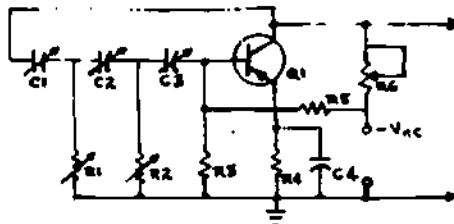

Figure 3
For questions 1 through 10, refer to the Figure 3 schematic diagram.
4. The component that helps to determine both the frequency and forward bias of the Figure 3 oscillator circuit is _____ .